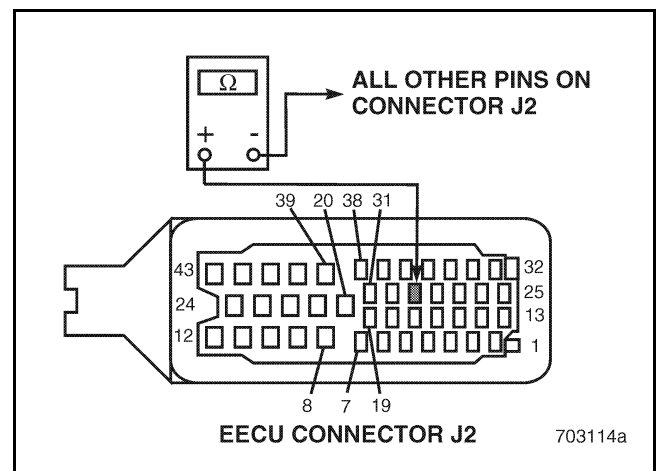

Figure 300
4. Check for continuity between EECU harness connector J2 pin 29 and all other pins on EECU connector J2 (see Figure 300).